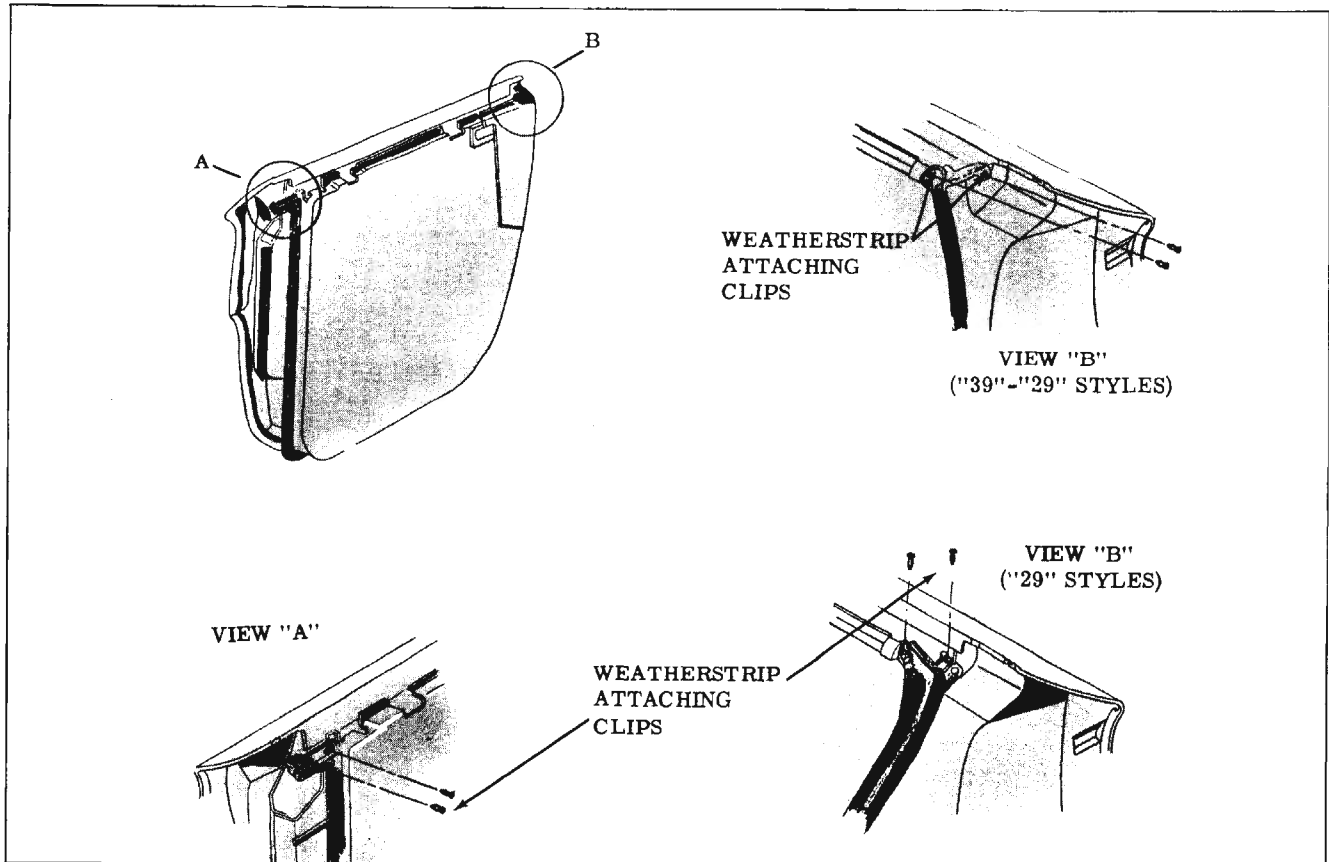

Fig. 16-36 Rear Door Weatherstrip Attaching Clips
1. Remove snap fasteners securing ends of weatherstrip at belt line of door hinge and lock pillar panels. (Fig. 16-36)